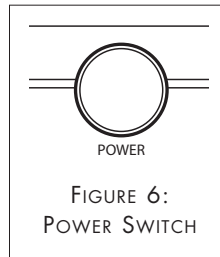
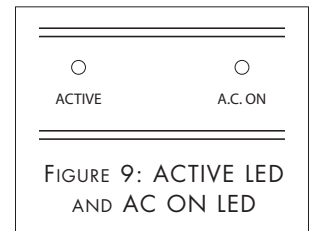

FIGURE 6:
FIGURE 9: ACTIVE LED
The 2120T MKII has several circuits designed to protect the amplifier from damage. If any are triggered, the ACTIVE LED (see *Figure 9*, on page 6) will flash and you may hear the sound of the protection relay clicking to protect the amplifier. After the fault has been corrected, the amplifier will automatically reset itself for normal operation. But it is advised that you turn off the amp's POWER button (see *Figure 6*, on page 6) while you are troubleshooting for shorted connections or faults with source components.
Press the Power switch (*Figure 6*) once to the "in" position to turn the amplifier on. Press the switch again to the "out" position to turn it off. Leave the switch in the "in" position when using the Auto On turn on/off feature. (The Auto On feature will automatically switch the amplifier's power on when an audio signal is present at its input jacks (see below).
This red LED (*Figure 9*) indicates that the amplifier's AC power cord is plugged into a live AC outlet. If the amp's main AC line fuse ever opens, this LED will go out. To use the Auto-On feature, this LED must remain ON at all times (i.e., with an unswitched outlet). The Power switch has no effect on this LED.
The primary function of this LED (*Figure 9*) is to show amplifier operational activity. In the Auto-On mode, this LED turns ON at the presence of an audio signal to the input jacks. The first time AC power is applied to the 2120T MKII, the ACTIVE LED will illuminate for about 3 minutes and then extinguish. This is a normal reaction of the Auto-On circuitry the very first time it receives power. Thereafter, the 2120T MKII is ready for Auto-On operation.
3. As shown in *Figure 9*, remove the shorting sleeves from their factory-set (ON) position on the Hi-Pass Filter jumper pins and replace them in the OFF positions. Make sure you insert the shorting sleeves all the way onto the jumper pins.